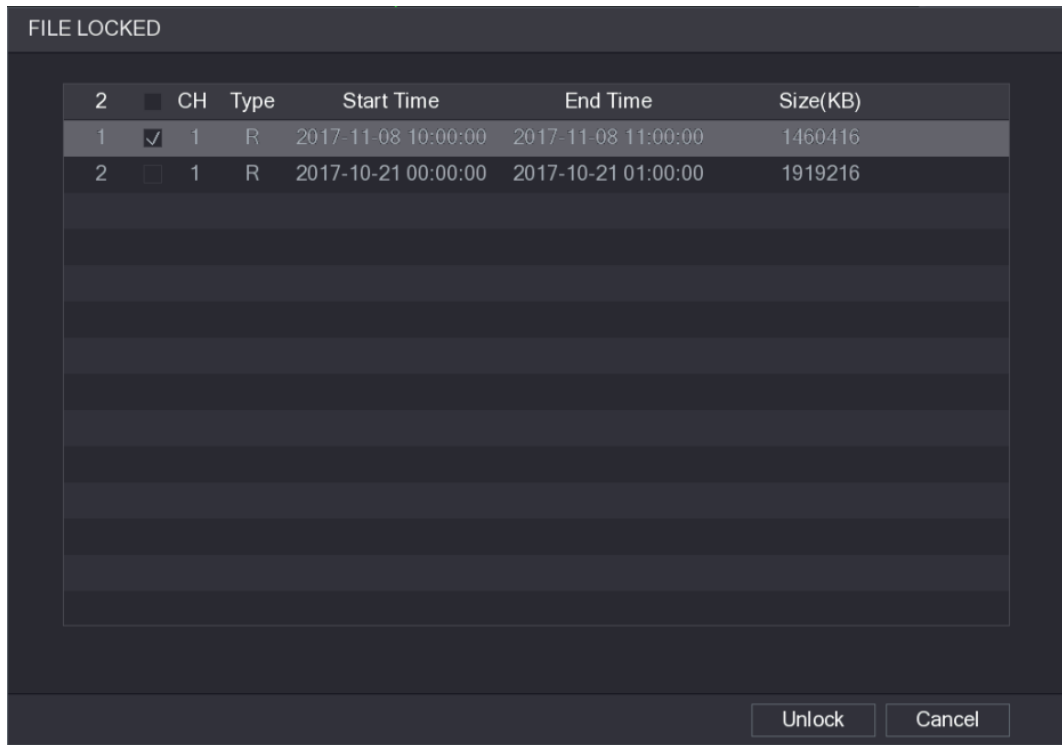

Figure 5-109
- To unlock the recorded video, in the **FILE LOCKED** interface, select the video, and then click **Unlock**. See Figure 5-109.